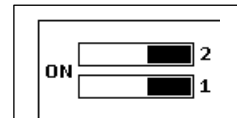

Fig. 12
- Set DIP 1 to ON, position, as shown in Figure 12;
- Set DIP 2 to OFF position, if installed detection devices are NO type (Fig. 12);